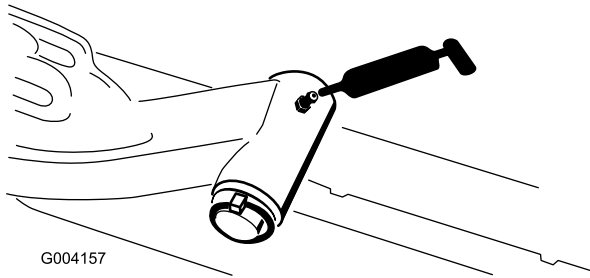

Figure 55
- Lift arm pivot shaft (1 each) (Figure 55)